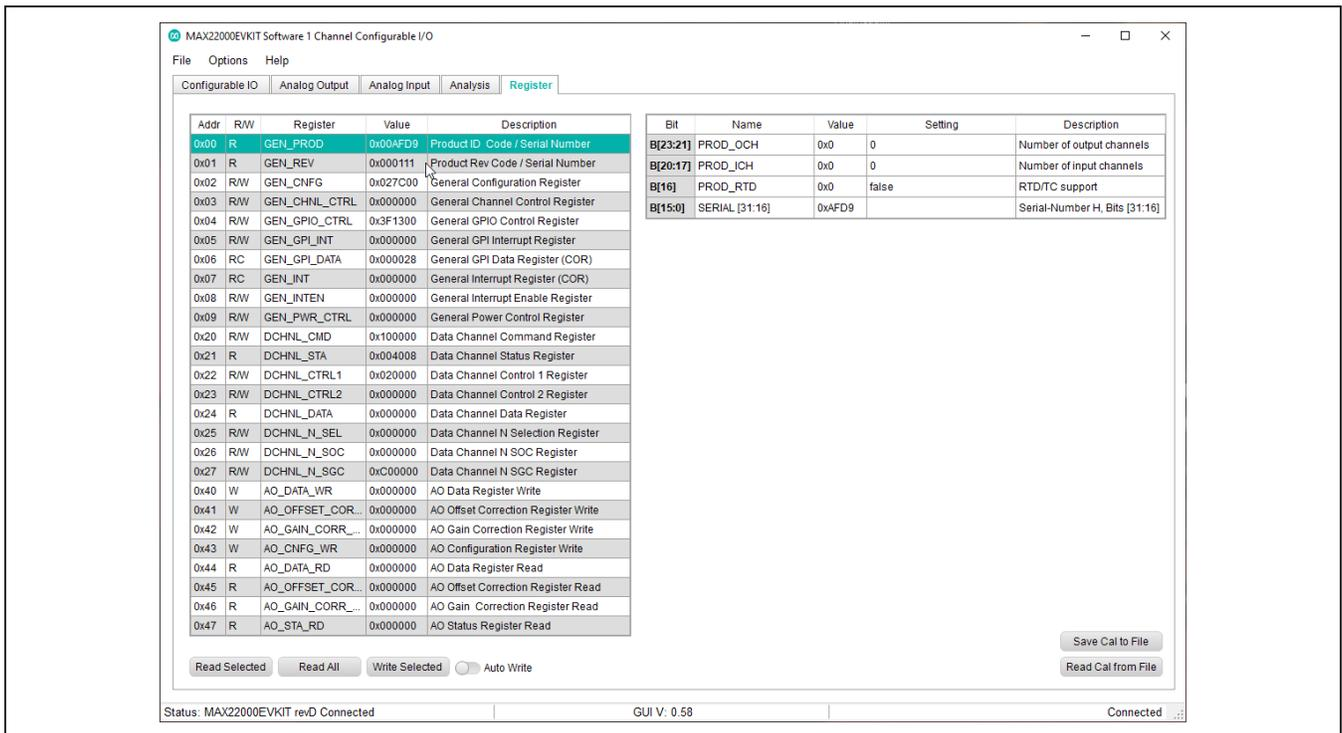

Figure 2. MAX22000 EV Kit Software, Register Access Test
- 11) Inspect the bottom 16 bits of register 0x00 (GEN\_PROD) and the bottom 16 bits of register 0x01 (GEN\_REV) are not all zeroes (Figure 2).